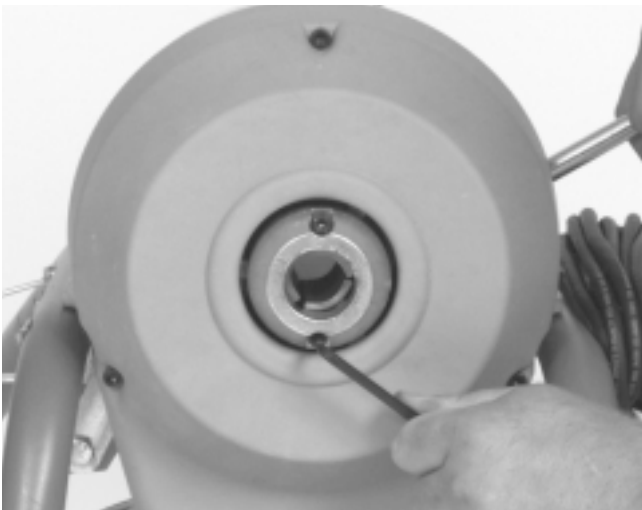

Figure 12 – Replacing Clutch Jaws
2. Remove screws from the nose piece assembly (Figure 12).